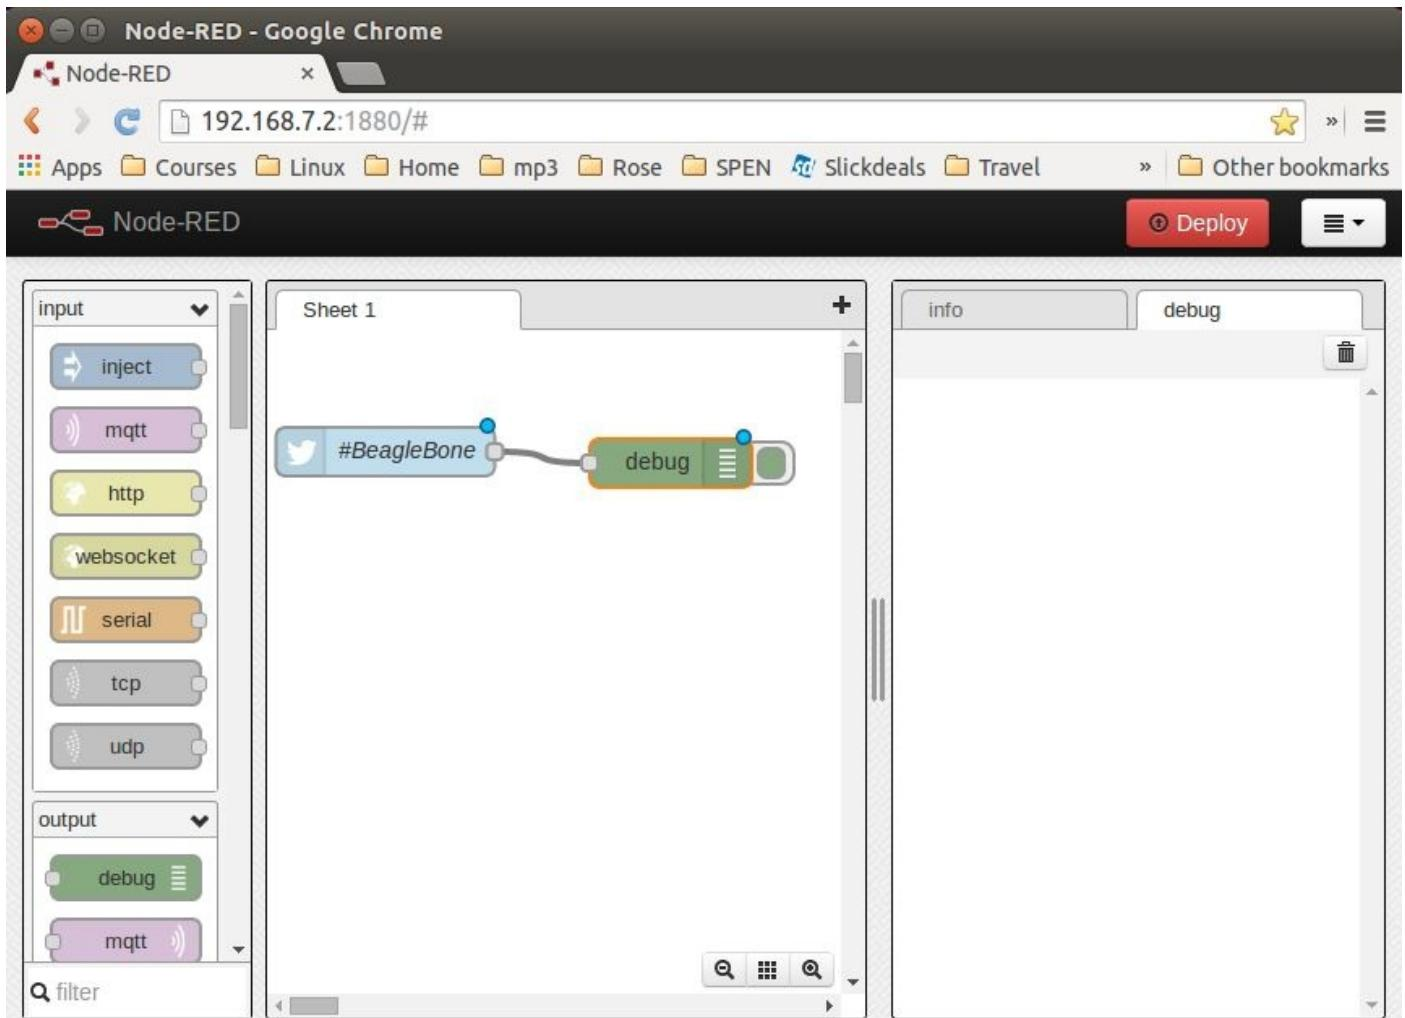

Figure 6-13. Node-RED Twitter adding debug node and connecting
9. Connect the two nodes by clicking and dragging (Figure 6-13).